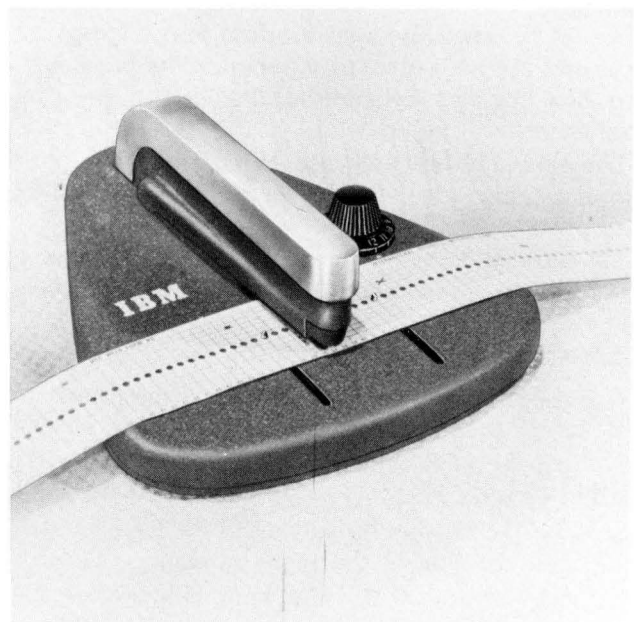

Figure 28. Tape Punch
*Punching the Tape:* A small, compact punch (Figure 28) is provided for punching the tape. The tape is first marked in the channels in which the holes are to be punched. This can be done easily by laying the tape beside the left edge of the form it is to control, with the top line (immediately under the glue portion) even with the top edge of the form. A mark is then made in the first channel, on the line that corresponds to the first printing line of the form. Additional marks are made in the appropriate channels for each of the other skip stops, and for the overflow signal required for the form.